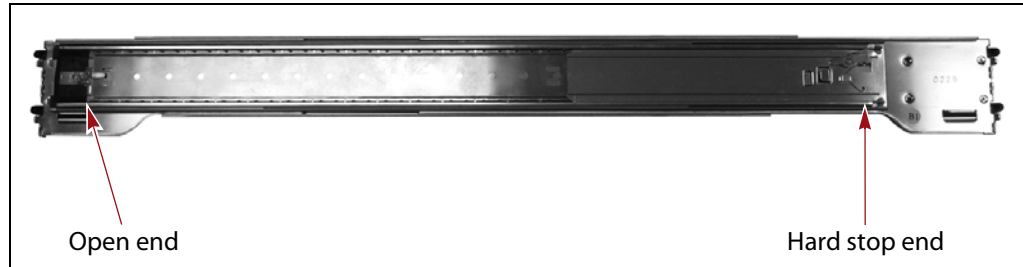

Figure 2 Location of the hard stop and open ends of the outer rack rail.
1. Orient the rack rail with the open end to the left and the inner rail facing you (see Figure 2).